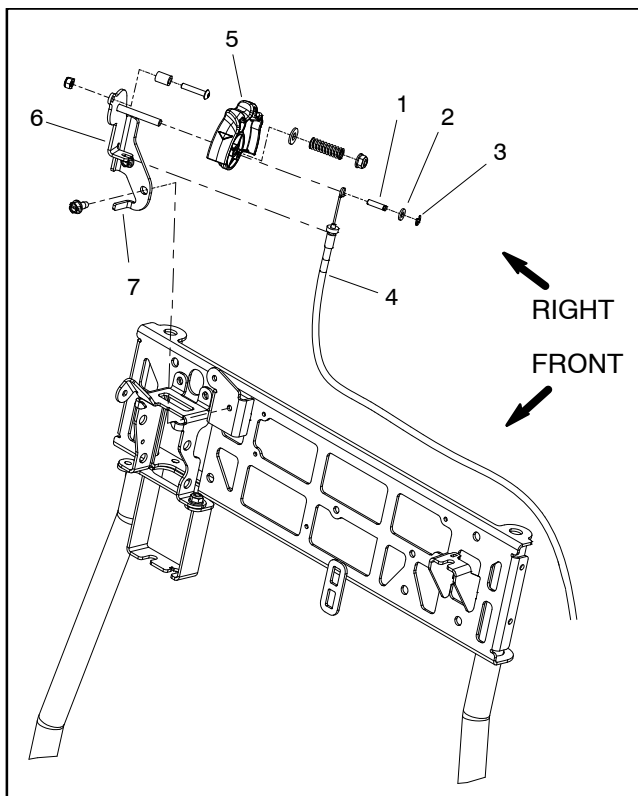

Figure 5
4. Remove throttle cable from the throttle control assembly (Fig. 5):
1. Connect throttle cable to throttle control assembly (Fig. 5).
2. Route throttle cable to the engine. Make sure that cable is routed on right side of throttle mount cable guide (item 7 in Fig. 5).